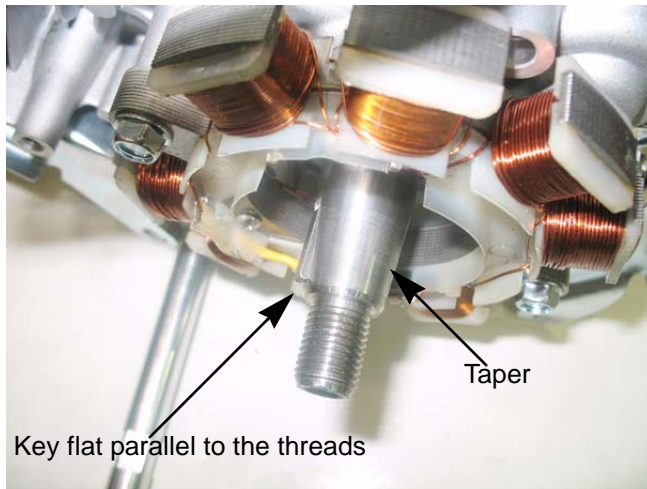

Figure 7.16
5. Inspect the key, keyway, and tapered mating surfaces of the flywheel and crankshaft. See Figure 7.16.